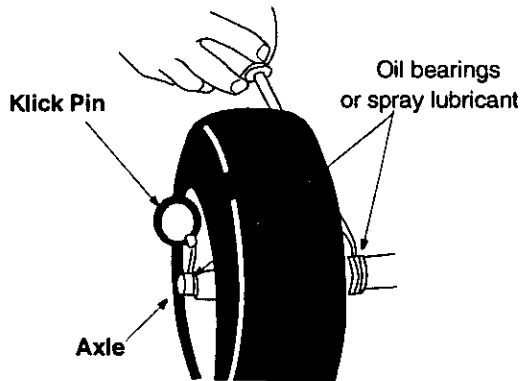

Figure 15
- Oil or spray lubricant into bearings at wheels at least once a season. Pull klick pin, remove wheels, clean and coat axles with a multipurpose automotive grease. See Figure 15